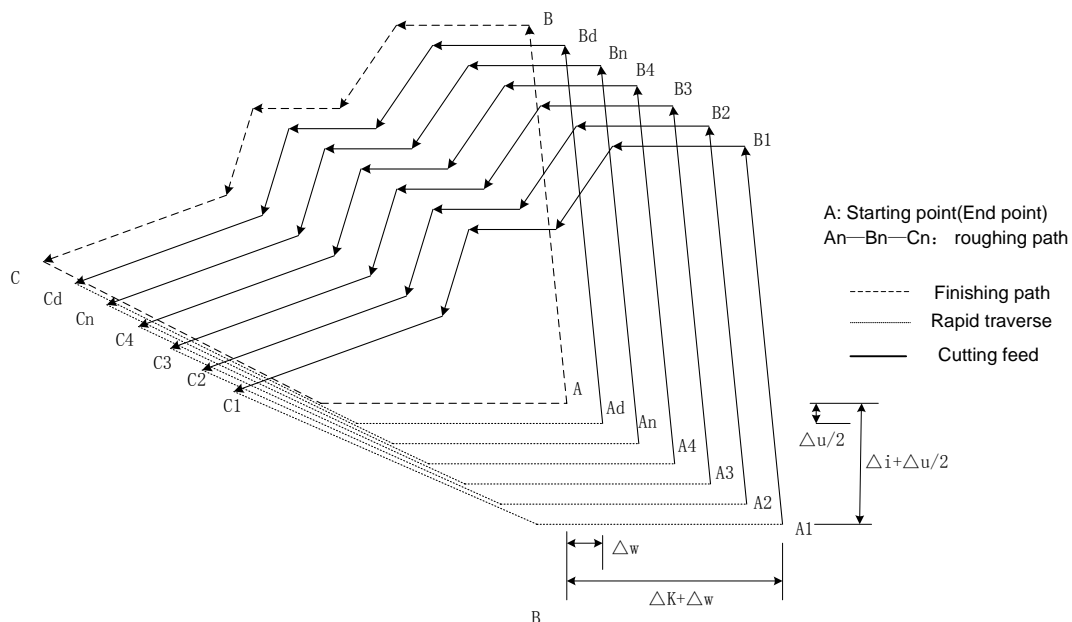

Fig. 3-31 G73 path
According to the finishing allowance, the travel of tool retraction and the cutting times, the system automatically counts the travel of roughing offset, the travel of each tool infeed and the path of roughing, the path of each cutting is the offset travel of finishing path, the cutting path approaches gradually the finishing one, and last cutting path is the finishing one according to the finishing allowance. The starting point and end point of G73 are the same one, and G73 is applied to roughing for the formed rod. G73 is non-modal and its path is shown in Fig.3-31.
**Execution process:** (Fig. 3-31)
①  $A \rightarrow A_1$ : Rapid traverse;
② First roughing  $A_1 \rightarrow B_1 \rightarrow C_1$  :